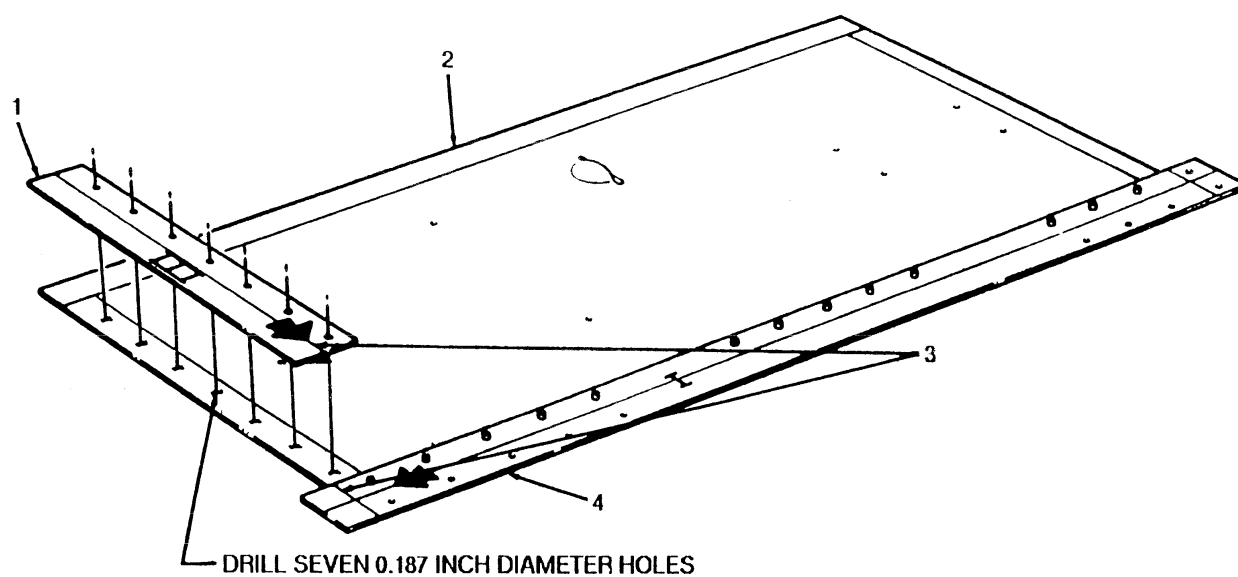
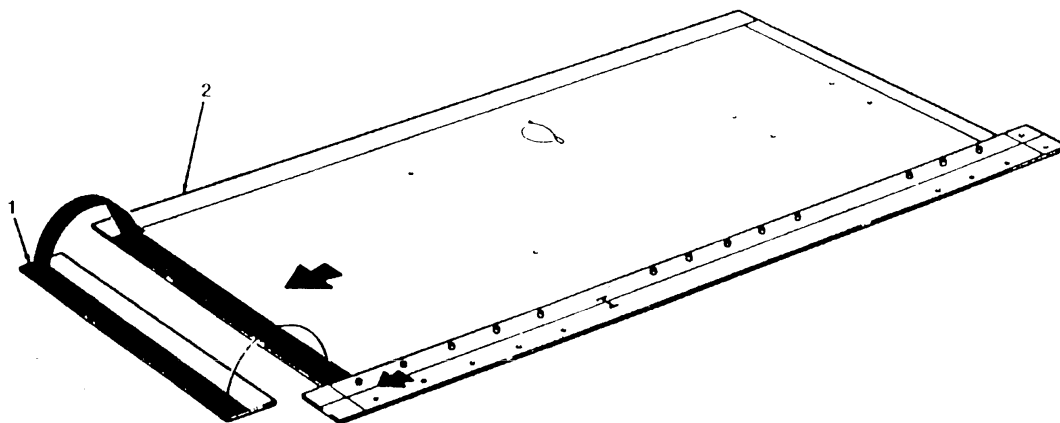

FIGURE 3-42
FIGURE 3-43
1. Place insert panel (2) on a suitable work surface with the arrow facing up and toward left hand. (see figure 3-42)
2. Position metal strip "III" (1), with arrow facing up and toward metal strip "I" (4), onto insert panel (2). Align reference lines (3).
3. Using metal strip "III" (1) as a template, locate, mark, and drill seven 0.187-inch diameter holes in insert panel (2). Remove metal strip "III" (1).
4. Apply approximately 0.125-inch thickness of P/N 89616 Silaprene adhesive sealant to shaded mating surfaces on insert panel (2) and metal strip "III" (1). (see figure 3-43)